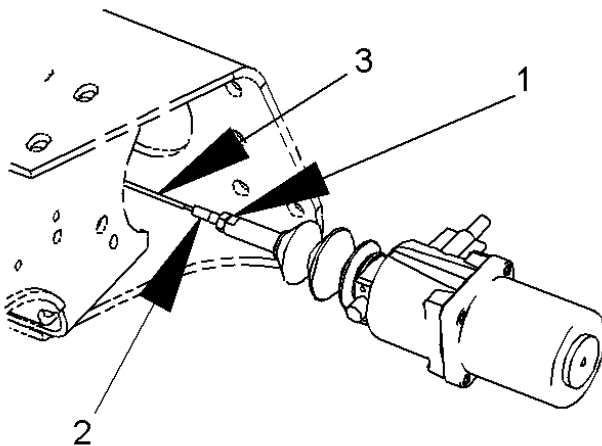

Figure 10 Spring Chamber Assembly
4. Loosen jam nut and un-thread adjustment rod from chamber to reduce tension on the cable. Continue to un-thread adjustment rod all the way and remove from chamber (Figure 10). **Nut and shaft are metric.**